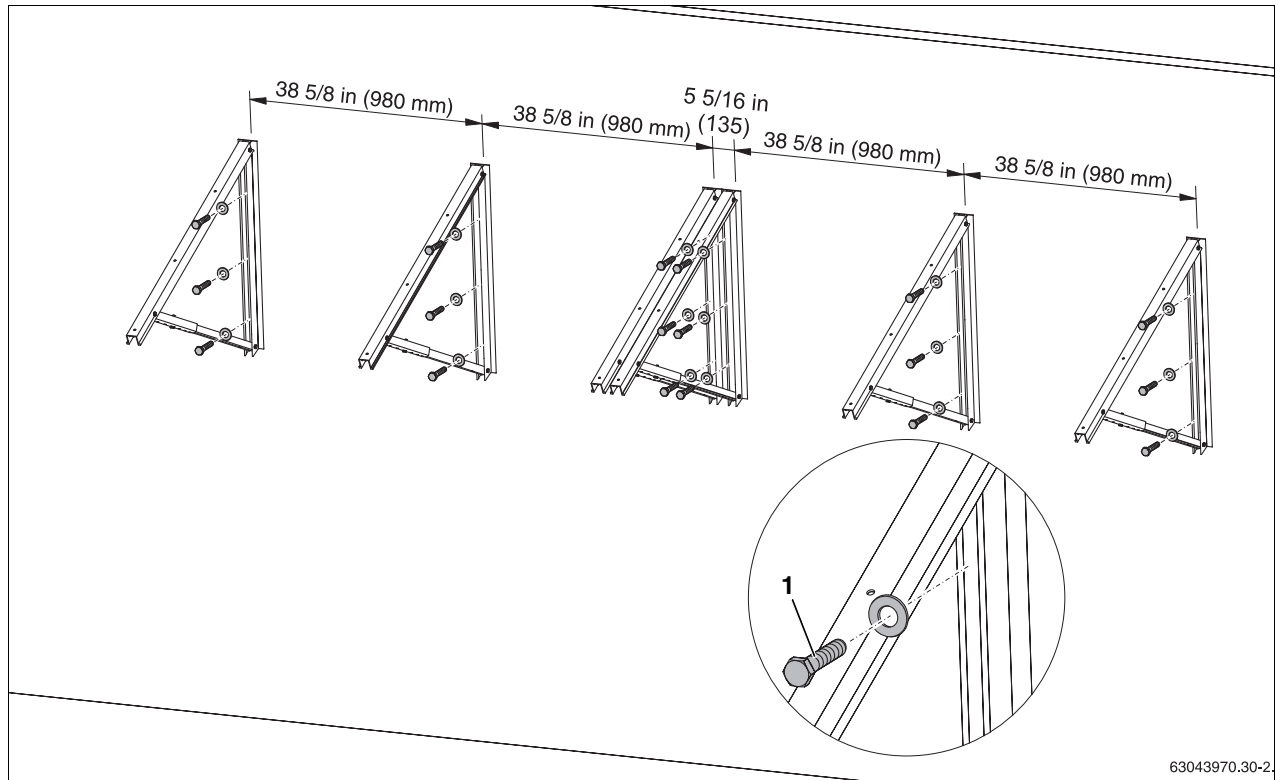

Fig. 30 Attaching the collector rack to the wall (for 2 collectors)
- ▶ Use 3 screws to fasten each collector triangle to the wall (see Tab. 8, Fig. 30, [1]).